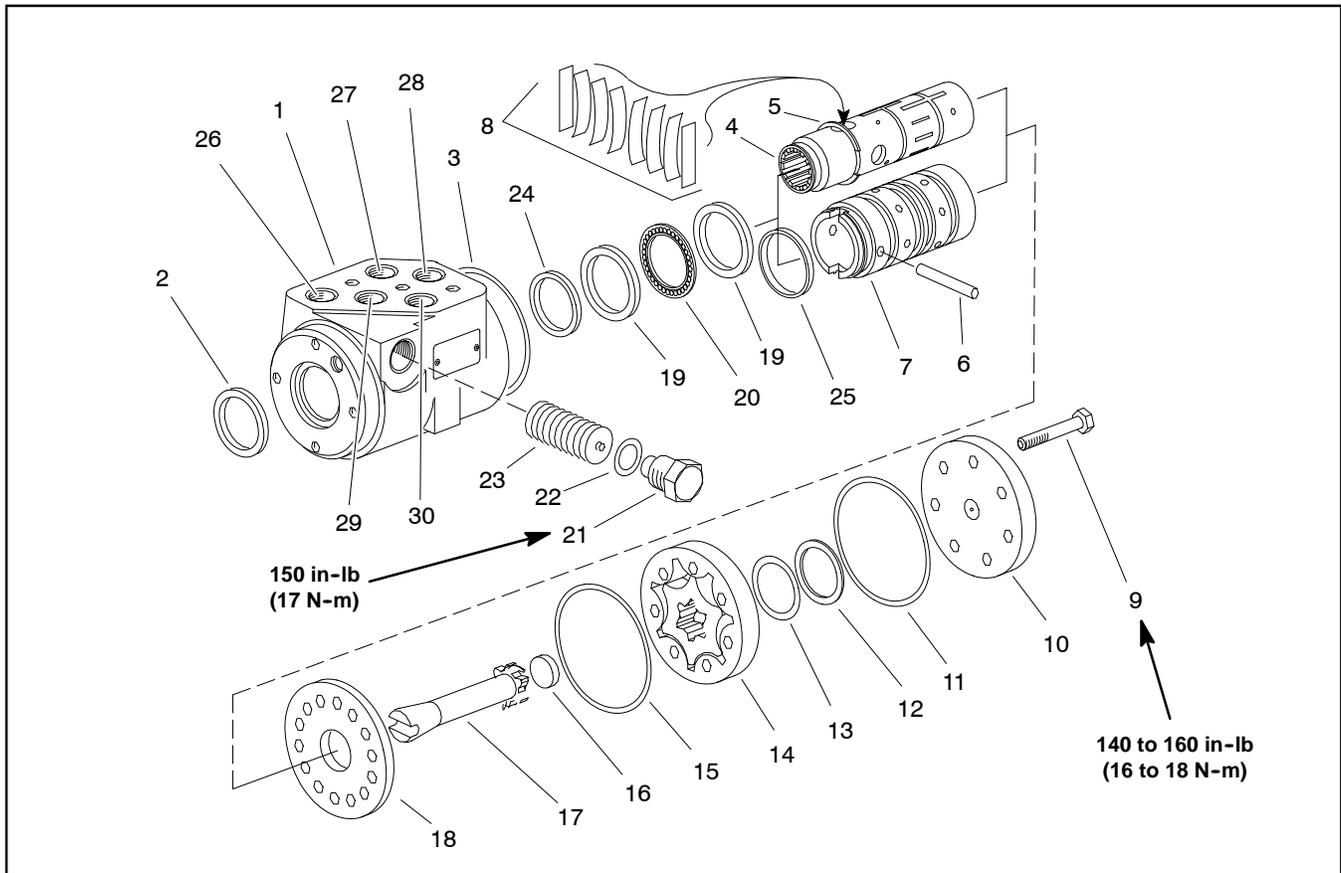

Figure 78
2. Remove end cap, geroter, spacer, geroter drive, wear plate, seal ring, and O-rings from housing (Fig. 78).
5. Remove the thrust bearing and bearing races (2).